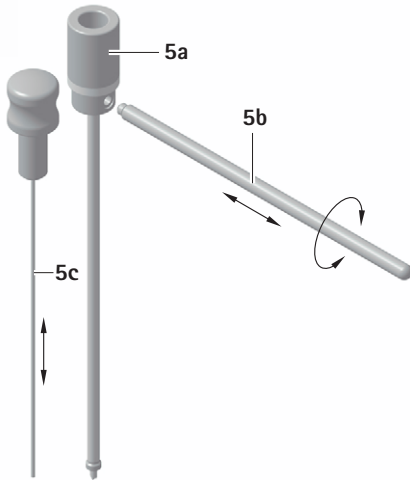

Fig. 1
- Insert the impactor **5c** into the aiming tube **5a**, see Fig. 1.